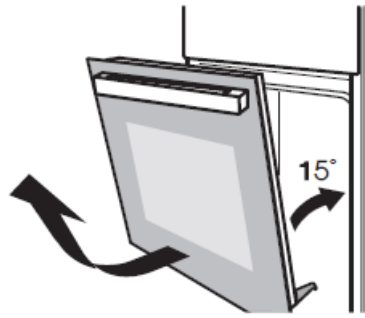

Figure 2
2. Close the door to an angle approximately 150°. Lift up and slowly pull the door out from the oven. (Figure 2)